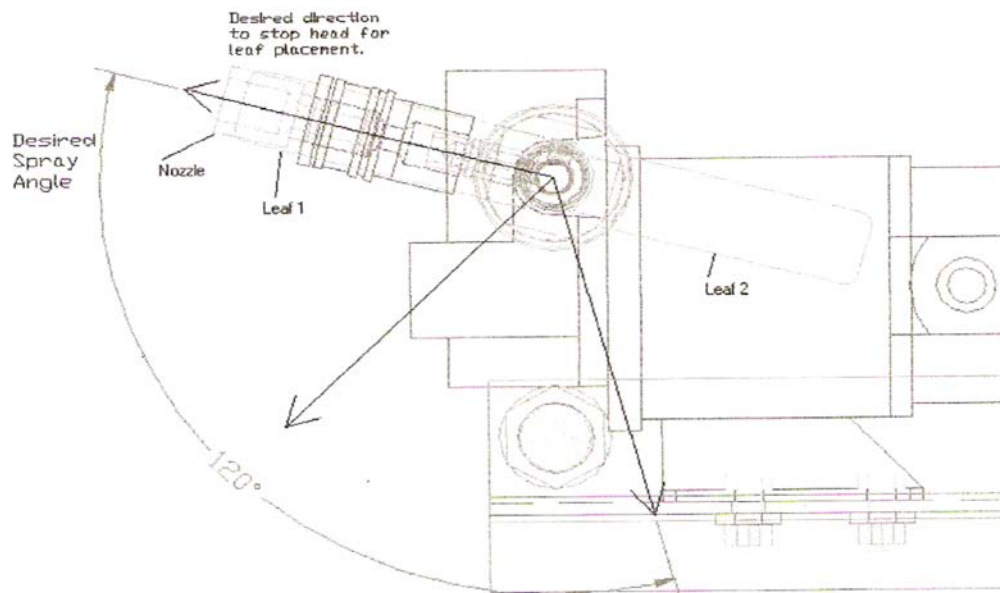

Figure 2.3
2.1.8.1 Set one of the leaves so that it lies along the nozzle. See Figure 2.3